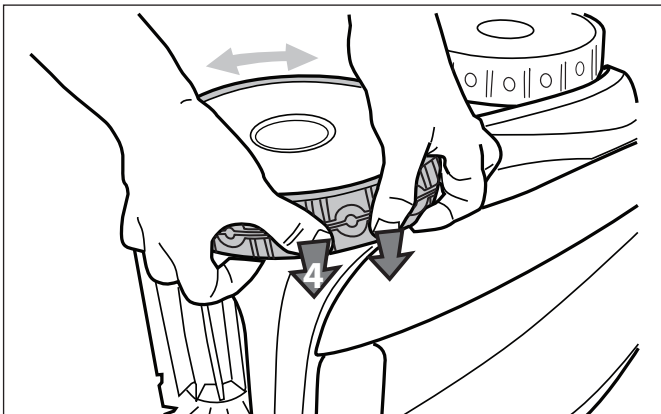

Figure 38. Push the Tyre into Place on the Wheel
6. Push and position the rib of the inner side of the tyre in the groove of the wheel (Figure 38). If needed, turn the wheel gently to help with installation.